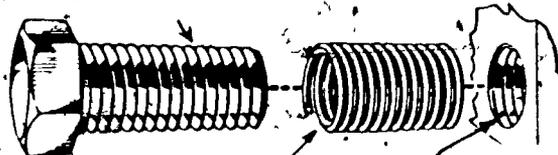

FIGURE 1
- c. Install Heli-coil insert to bring hole back to original thread (Figure 1)